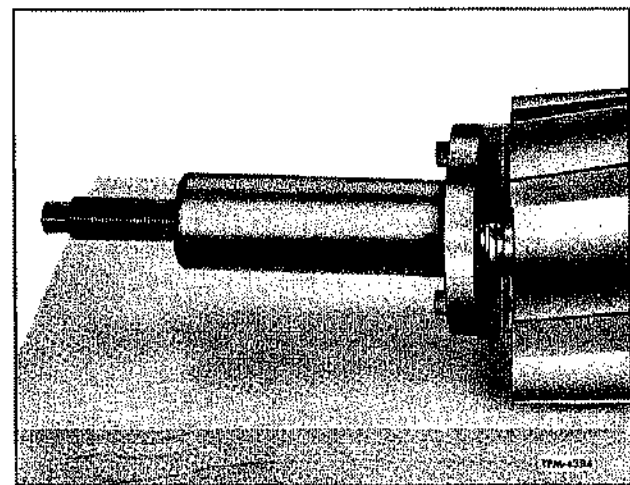

Figure 10—Removing Seal Ring Carrier
2. If inspection indicates necessity, remove seal ring carriers from rotor shaft by use of puller J-6270-1 and adapter J-6270-2. Application of tools is illustrated in figure 10.